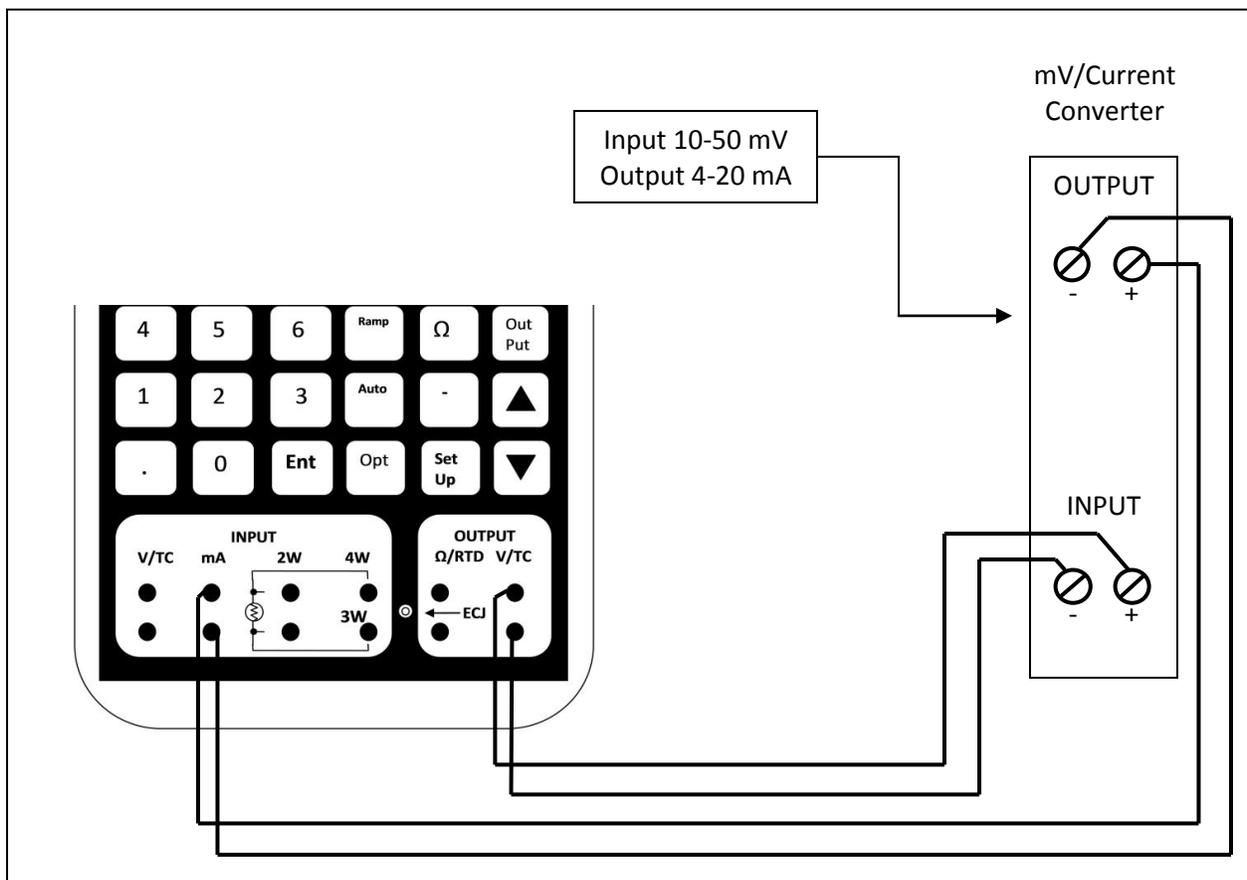

Figure 1
1. Connect as shown in Figure 1.